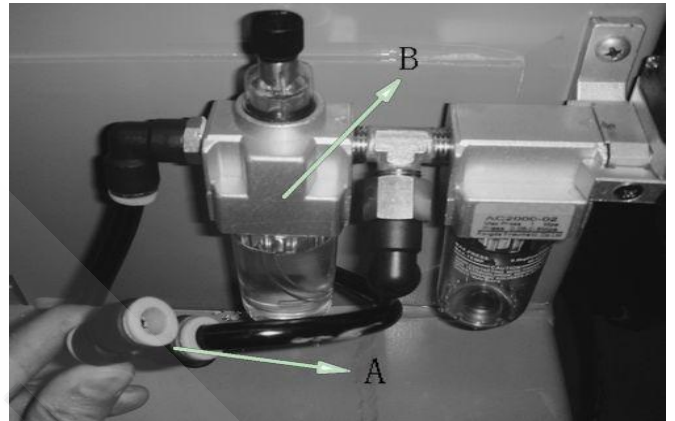

Fig 7-5
7. 1.6 Connect the air source hose and use Y Tee (Fig7-5 A) to connect the outlet hose and the other end connect with the inlet of the assistant pressure adjusting valve.
7.3.4Remove the hose from the end of the air source fitting and use a small section of the $\varnothing 8$ PU hose to connect the Y Tee with the outlet and another connected with the air source hose (fig7-5)
7.3.5Insert one end of the $\varnothing 8$ PU hose (fig 7-5) into the idle adapter of the Y Tee and another end connected with the inlet of the pressure adjust valve of the assistant.